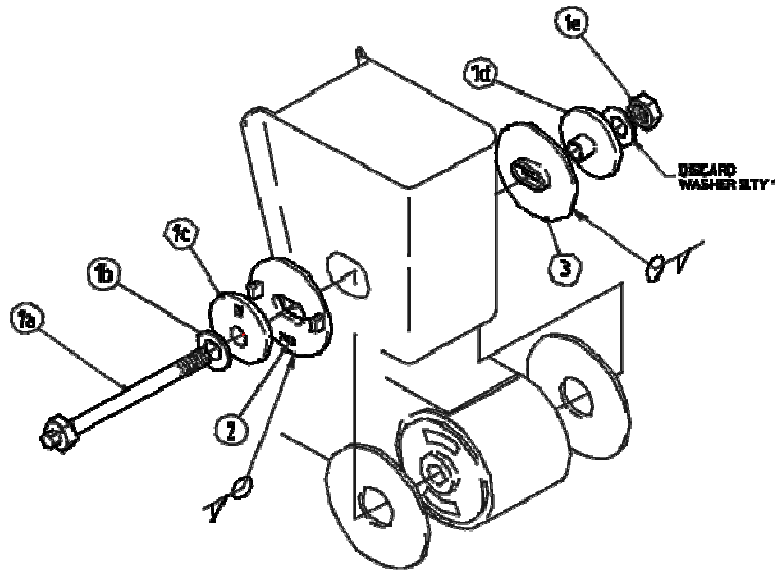

Figure 1
6. Insert items 2 and 3 into the hanger as in *Figure 1*.
7. Ensure item 2 is orientated with the part number to the bottom and located outboard of the hanger.
Note: *Discard one of the 7/8" hardened flat washers from the hardware kit as shown in Figure 1.*
Weld the adaptors to the hangers as specified in *Figure 1*.